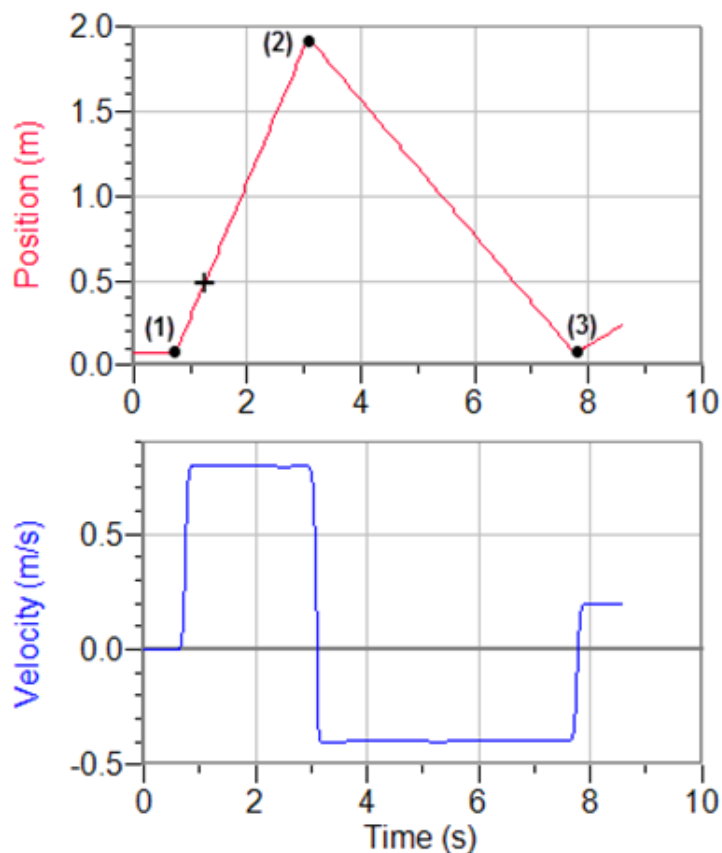

Figure 4: Sample results using “IIB. There and Back Again” instructions
- 3 Using the instructions in step 5 in Part IIA, generate a $v-t$ graph below the $x-t$ graph. Adjust your graph scales to (10, 0, 2, 0) for the $x-t$ graph and (10, 0, 1, -1) for the $v-t$ graph. You should have something like Figure 4. But it might be shifted to the right or left.
- 4 Three points, 1–3, have been added to Figure 4. Using the Examine tool just described, find the (t, x) values for each point.